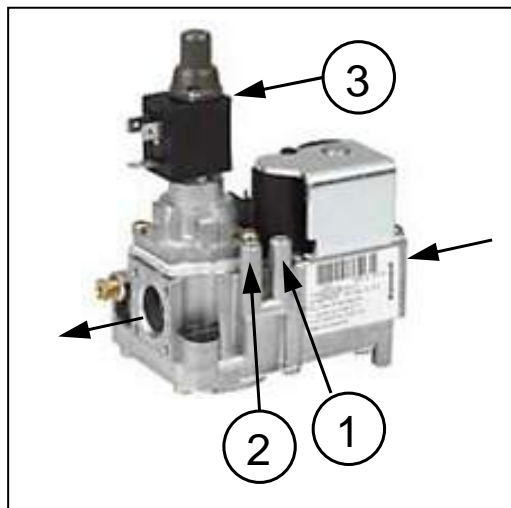
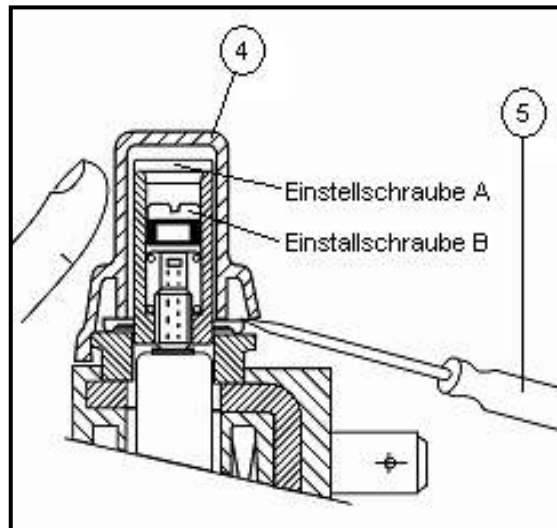

Fig. 3: Solenoid valve (two-stage)
Fig. 4: Sectional view of the valve with set screw
- ⇒ Open the test nipple (1) (Fig. 3).
- ⇒ Open the test nipple (2) (Fig. 3).
- ⇒ Connect a pressure measuring device to the test nipple (2) and determine the orifice pressure.
- ⇒ Use a small screwdriver (5) to remove the housing (4) of the plug (3). Put the screwdriver into one of the gaps and lift the housing with the screwdriver and the hand (Fig. 4).